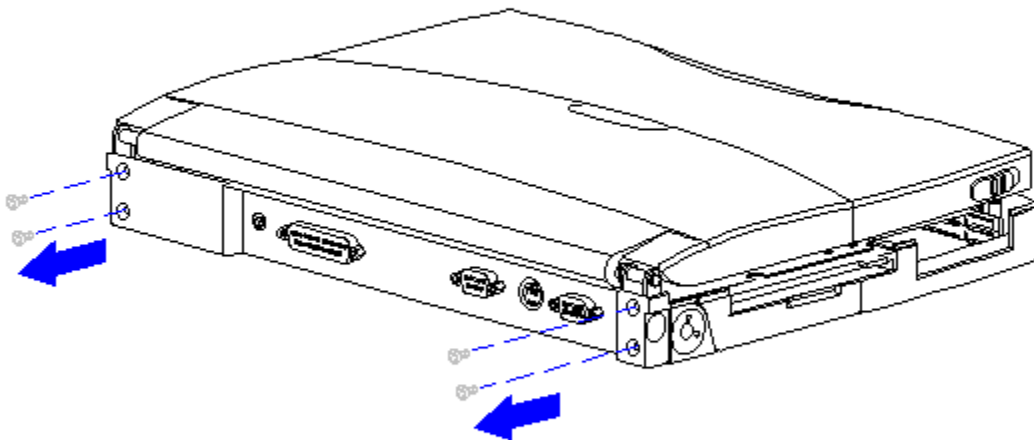

Figure 5-128. Removing the Rear Clutch Screws
9. Using a Torx T8 or slotted driver, remove the four clutch screws on the rear of the system unit module (Figure 5-128).